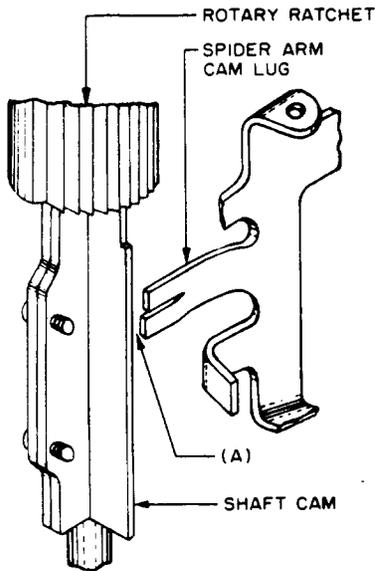

Fig. 5 — Relationship of the Spider Arm Cam Lug and the Shaft Cam
2.19 Clearance Between Spider Arm Cam Lug and Shaft Cam: Fig. 5 (A) — With the shaft up on any level and cut in one step, there shall just be perceptible clearance between the spider arm cam lug and the shaft cam.